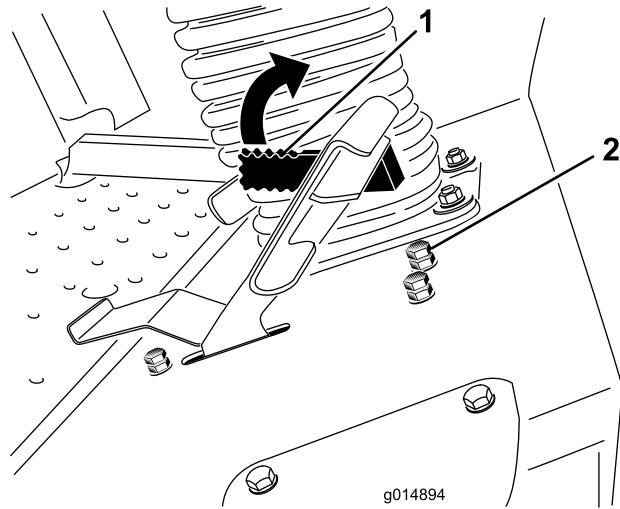

Figure 41
The mow speed limiter lever (Figure 41) can be flipped forward to limit the traction speed while operating.
3. Loosen the jam nut on the mow speed limiter stop bolt (Figure 41).